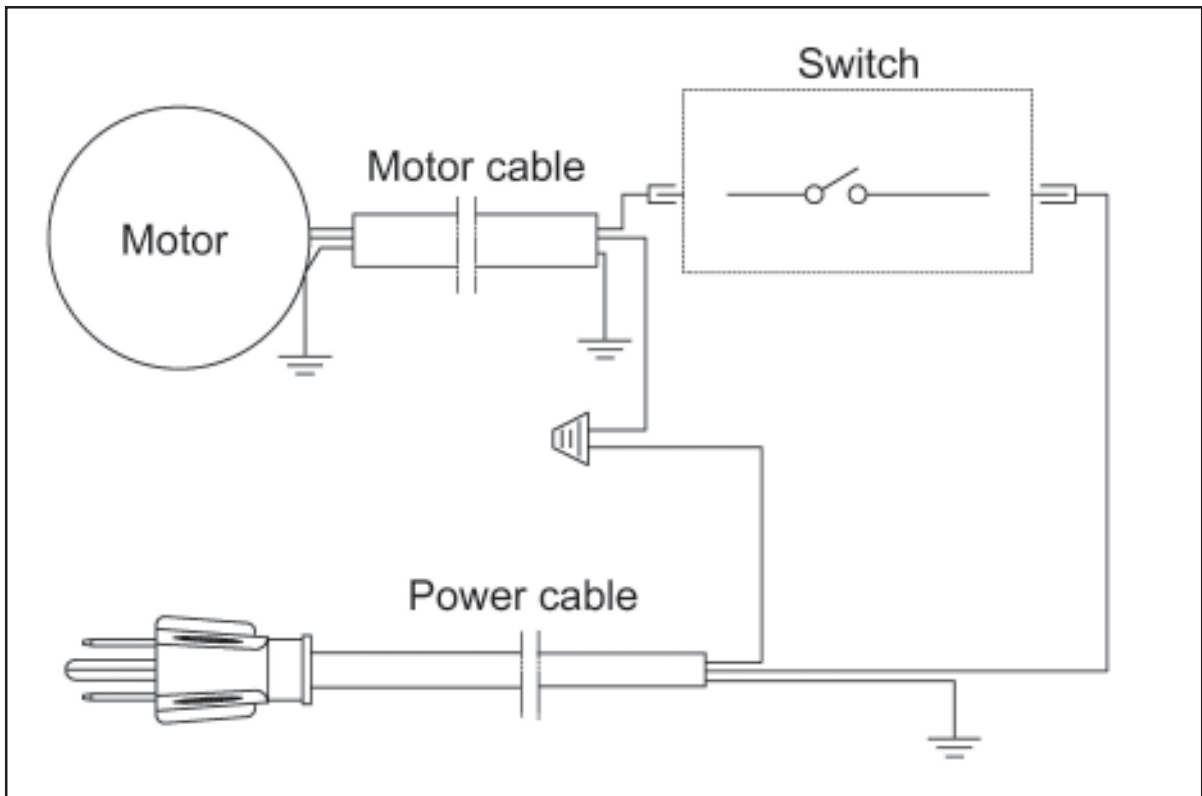

Fig. 23
6. Test belt tension by placing fingers on either side of the belt and squeeze. There should be about a 1/4 inch 'give', or deflection, to the belt. (See Fig. 23)